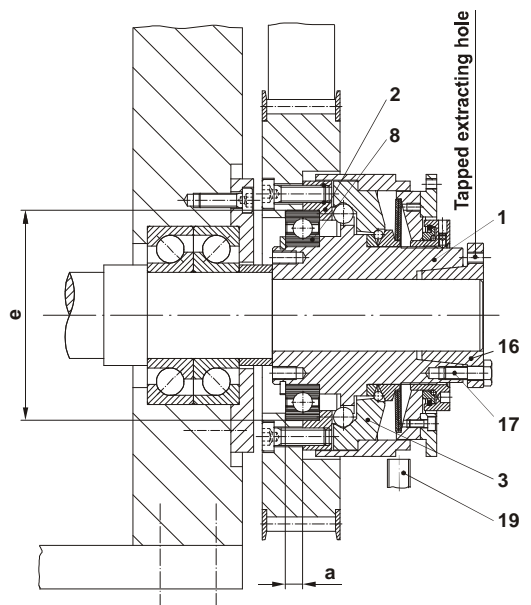

Fig. 4
Size	Connection dimensions (Fig. 4, page 4)
Installation of the Output Elements (Fig. 4)
In order to prevent the output element (pressure flange (2)) from moving axially in the direction of the thrust washer (3) during overload, please make sure that the bearing of the output element is designed as a location bearing (Fig. 4).
Please observe the connection dimensions "a" and "e" for the output elements acc. Fig. 4 and Table 5, page 3.